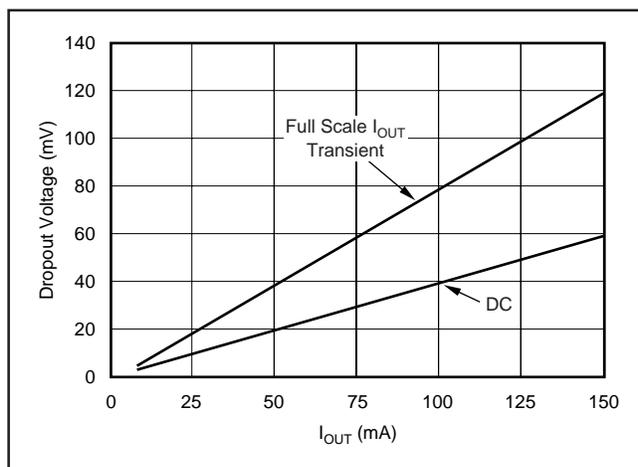

FIGURE 6. Transient and DC Dropout.
The REG101 uses an N-channel DMOS as the “pass” element. When the input voltage is within a few tens of millivolts of the output voltage, the DMOS device behaves like a resistor. Therefore, for low values of V_{IN} to V_{OUT} , the regulator’s input-to-output resistance is the R_{dsON} of the DMOS pass element (typically 600m Ω). For static (DC) loads, the REG101 will typically maintain regulation down to V_{IN} to V_{OUT} voltage drop of 60mV at full rated output current. In Figure 6, the bottom line (DC dropout) shows the minimum V_{IN} to V_{OUT} voltage drop required to prevent drop-out under DC load conditions.
For large step changes in load current, the REG101 requires a larger voltage drop across it to avoid degraded transient response. The boundary of this “transient drop-out” region is shown as the top line in Figure 6. Values of V_{IN} to V_{OUT} voltage drop above this line insure normal transient response.